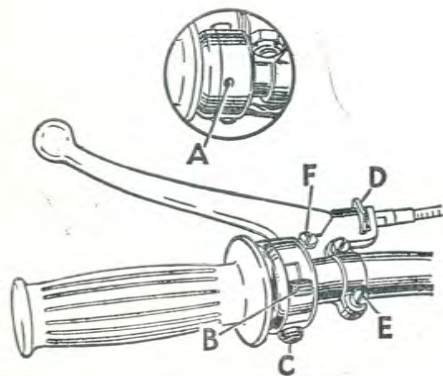

FIG. 4.
The lever is mounted on the left handlebar and its position can be adjusted after slackening of the screws (E) Fig. 4. The looseness of the lever is adjusted by rotation of screw (F) Fig. 4, after slackening its locknut. Grip the lever to free the clutch, i.e., disengage the drive between the motor and the rear wheel. Finger adjustment for the clutch cable is provided at the adaptor (D) Fig. 4, on the lever. A greasing point is provided in the cable at (B) Fig. 22.
A combined horn push-button (C) Fig. 4, and headlight dipper switch is operated from the left handlebar.
This control is combined with the horn button and is mounted on the left handlebar (B) Fig. 4. It controls the switching from main to dipped headlight beam.
The housing can be adjusted for position after releasing the locking screw (A) Fig. 4.